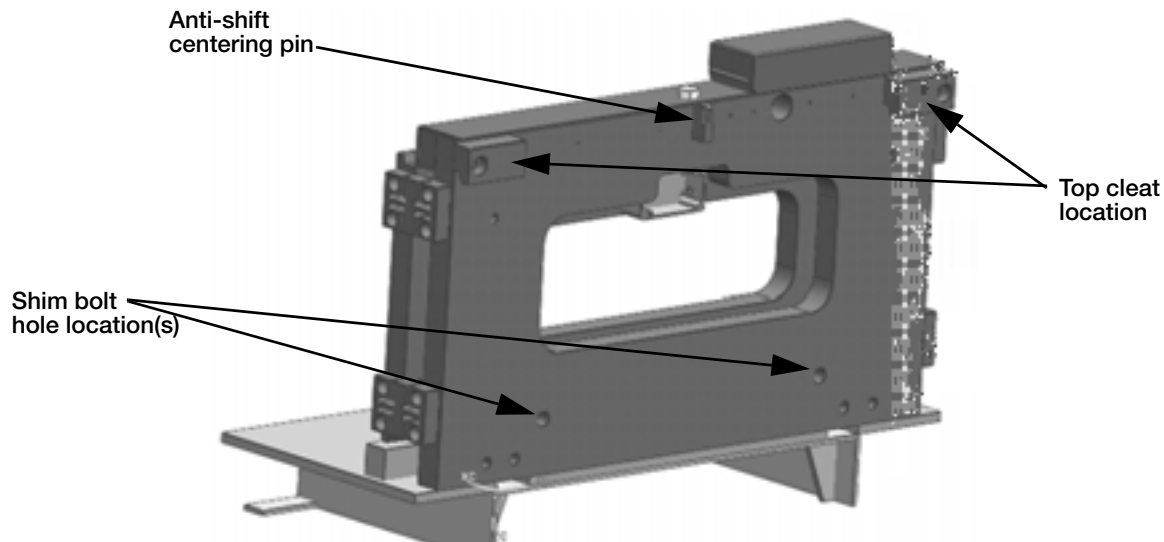

Figure 2-4. Anti-shift Centering Pin, Shim Bolts and Top Cleat Locations
4. Carefully and slowly raise the scale carriage slightly so the top cleats (cleat location shown in Figure 2-4) hook onto the forklift carriage. If they do not hook, carefully push the scale toward the forklift as it is being raised.